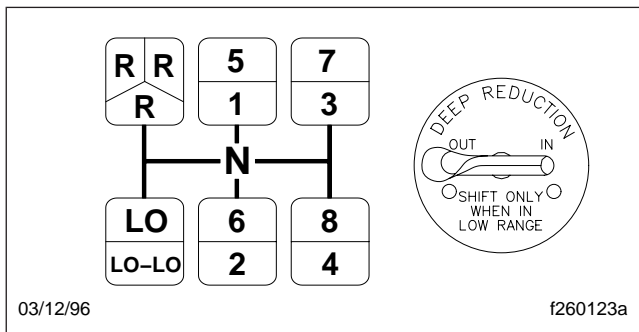

Fig. 5.8, Shift Pattern, Deep Reduction
Eaton Fuller deep-reduction models are not synchronized. They have a five-speed front section and a two-speed auxiliary section which has an extra deep reduction gear. The LO gear in the front section is used only as a starting gear. The other four ratios are used once in LO range and once in HI range giving eight highway ratios. LO-LO is selected by the deep-reduction lever on the dashboard. See Fig. 5.8 for the shift pattern.
1. Position the gear shift lever in neutral. See Fig. 5.8 for the shift pattern. Start the engine, and bring the air system pressure up to 95 to 125 psi (655 to 862 kPa).